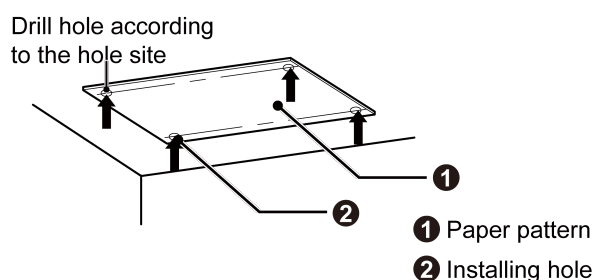
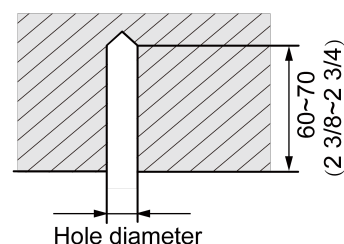

Fig. 4.1.3
Fig. 4.1.4
- 1) Stick the reference cardboard on the installation position; drill 4 holes according to the hole site on the cardboard as shown in Fig.4.1.3; diameter of drilling hole is according to the diameter of expansion bolt and the depth is 60-70mm(2-3/8~2-3/4 inch), as shown in Fig.4.1.4.